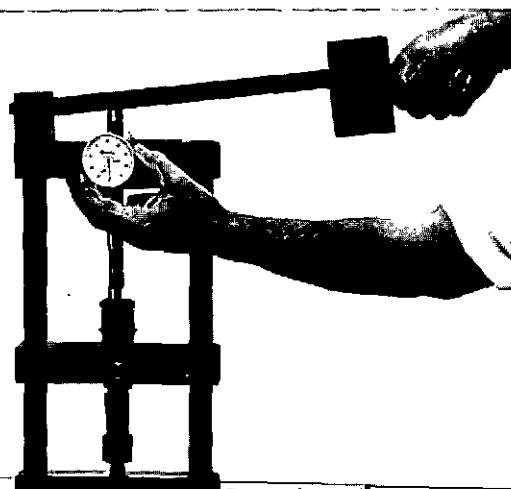

Fig. 4-6, (F60230). Bottom the plunger and zero the dial indicator
6. Bottom the injector plunger in the cup with the fixture handle. Set the dial indicator to zero, Fig. 4-6.